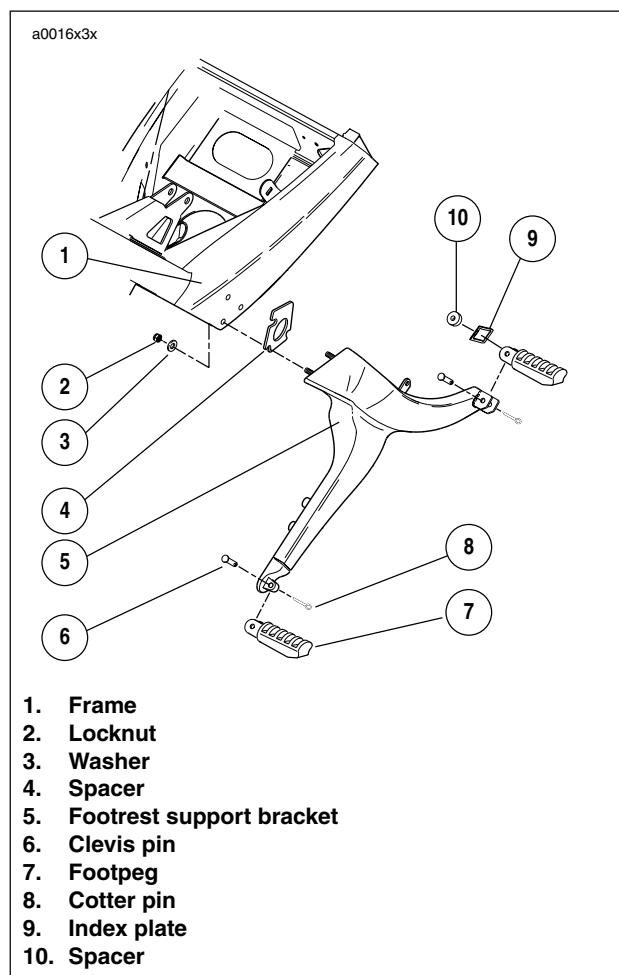

Figure 3-43. Footpeg Bracket Assembly
40. See Figure 3-43. Install right side rider footpeg bracket assembly. See 2.21 FOOTPEGS AND FOOTPEG SUPPORT BRACKETS.